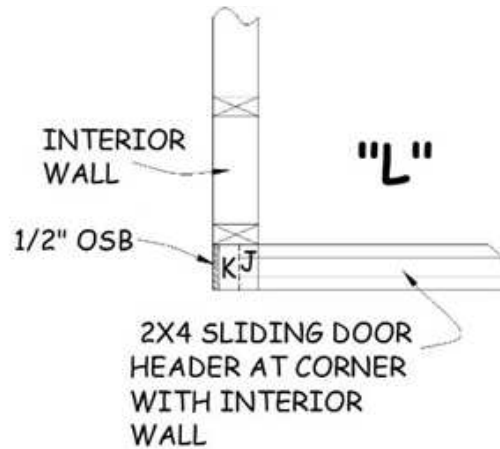

Figure 3-10. Interior L-Corner in Flush Sliding Door.
4. Referring to the House Plan, check for flush sliding closet walls that end at an inside corner of the closet (typically adjoining the 25” closet end wall). Similar to a plumbing wall, lay out the end of the flush sliding wall with a 3 $\frac{1}{2}$ ” sandwich of Jack stud, King stud, and $\frac{1}{2}$ ” of OSB (see Figure 3-10).